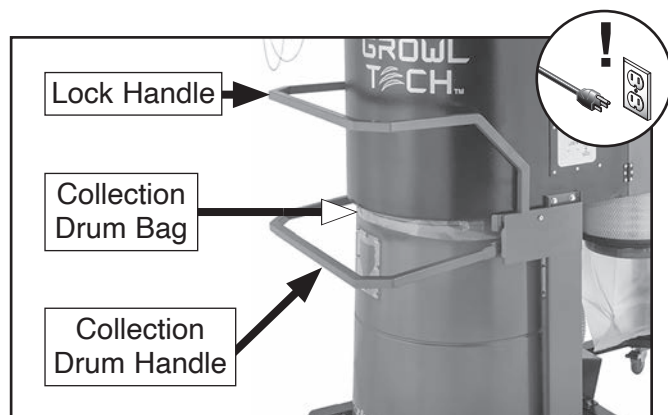

Figure 74. Collection drum bag components.
2. Raise lock handle, then lift collection drum handle to lower collection drum onto casters (see **Figure 74**).